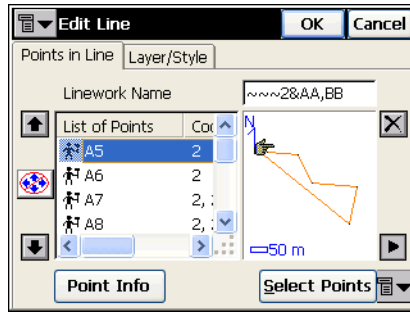

Figure 4-48. Edit Line
The *Edit Line* screen displays (Figure 4-48 on page 4-36).
4. In the *Point in Line* tab of the *Edit Line* screen, change the name of the linework if necessary (Figure 4-48 on page 4-36).